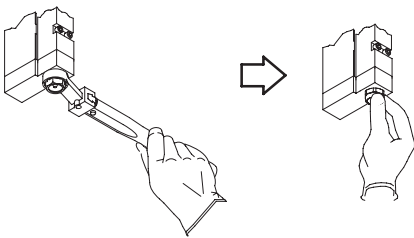

Figure 4 Removing a CF nozzle
- See Figure 4. Remove the nozzles using whichever of the following procedures is appropriate: